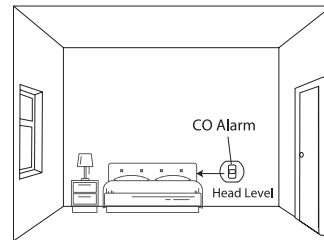

Figure 2: Installation in a bedroom or other room without a fuel-burning appliance (installed at head level)
2. Installing the CO alarm in a bedroom or room without a fuel-burning appliance (see Figure 2):